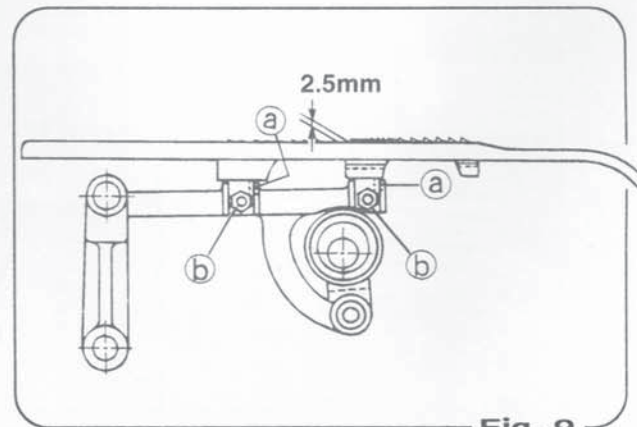

Fig. 9
- Adjust the height of the feed dog so that it protrudes 2.5mm from the upper surface of the throat plate when the feed dog has risen to the highest position, as shown in (Fig.9). If the feed dog is higher than this, stitch will not chain satisfactorily, and if it is lower than this, the stitch width will be too small. Slacken nut ⑥ with a box spanner to adjust the height of the Feed Dog. It is important to adjust the height with set screw ③ to ensure that the pressure from the Pressure Foot should not force it back down. Tighten nut ⑥ when the adjustment is correct.
- 送料齿(前)到最高位时，测查送料齿在针板面上高度，必须 2.5mm 如(图 9)所示。请将调节螺钉 ③ 拧左右而调为送料齿 2.5mm 高于针板上表面。调整结束用筒板子拧紧螺母 ⑥ 固定送料齿。